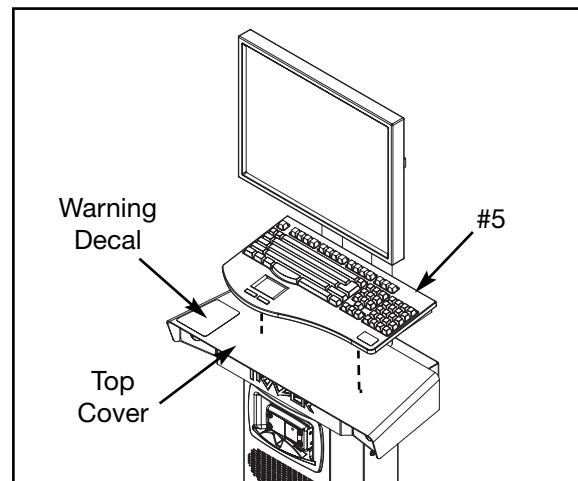

Figure 7
- C. Place keyboard (#5) towards the right side of the top cover of cabinet. Ensure that velcro adheres to top of cabinet. See Figure 7.